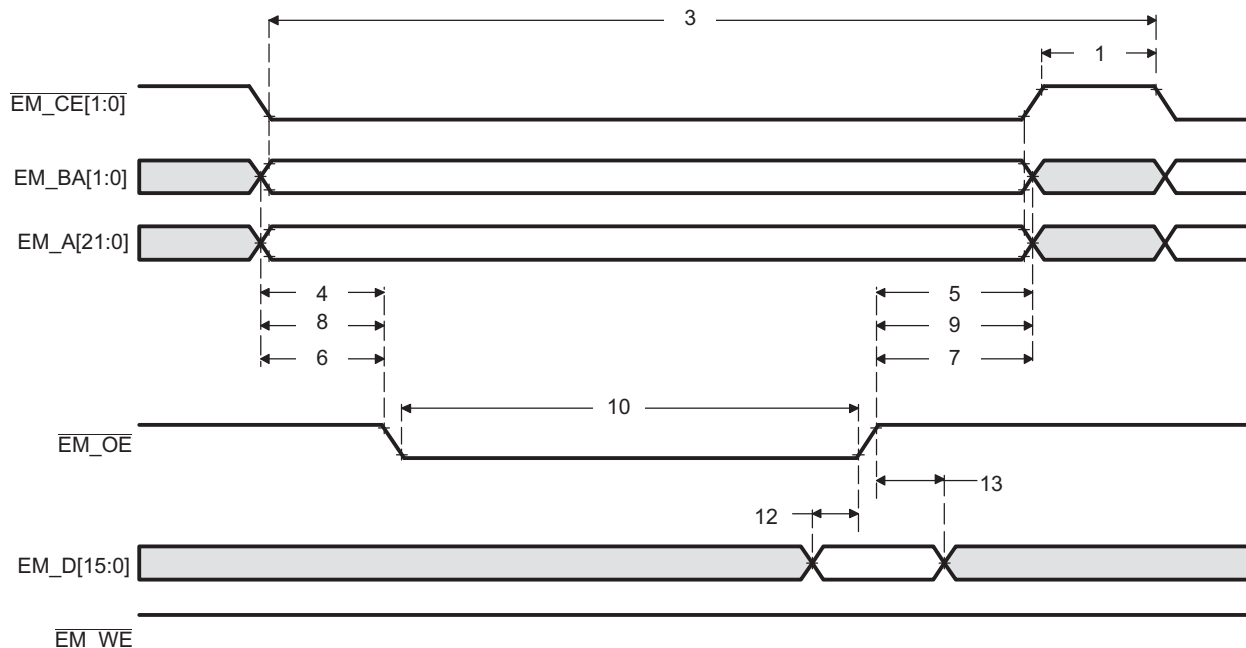
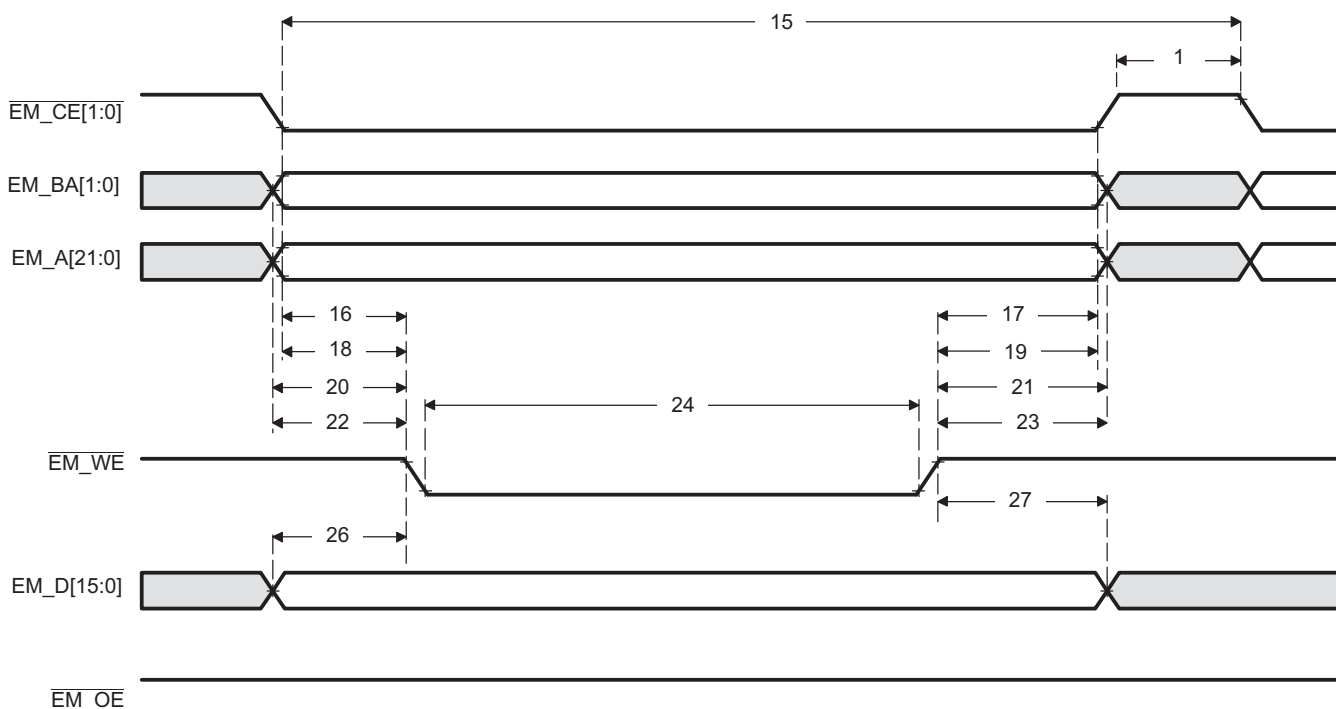

Figure 6-13. Asynchronous Memory Read Timing for EMIF
Figure 6-14. Asynchronous Memory Write Timing for EMIF
Table 6-21. Timing Requirements for Asynchronous Memory Cycles for AEMIF Module⁽¹⁾ (see Figure 6-13 and Figure 6-14)
Table 6-22. Switching Characteristics Over Recommended Operating Conditions for Asynchronous Memory Cycles for AEMIF Module⁽¹⁾ ⁽²⁾ ⁽³⁾ (see Figure 6-13 and Figure 6-14)
(1) TA = Turn around, RS = Read setup, RST = Read strobe, RH = Read hold, WS = Write setup, WST = Write strobe, WH = Write hold, MEWC = Maximum external wait cycles. These parameters are programmed via the Asynchronous Bank and Asynchronous Wait Cycle Configuration Registers. These support the following range of values: TA[4-1], RS[16-1], RST[64-1], RH[8-1], WS[16-1], WST[64-1], WH[8-1], and MEW[1-256]. See the *TMS320DM36x DMSoC Asynchronous External Memory Interface User's Guide* (SPRUF11) for more information.
(3) EWC = external wait cycles determined by EM_WAIT input signal. EWC supports the following range of values EWC[256-1]. Note that the maximum wait time before timeout is specified by bit field MEWC in the Asynchronous Wait Cycle Configuration Register. See the *TMS320DM36x DMSoC Asynchronous External Memory Interface User's Guide* (SPRUF11) for more information.
Table 6-22. Switching Characteristics Over Recommended Operating Conditions for Asynchronous Memory Cycles for AEMIF Module^{(1) (2) (3)} (see Figure 6-13 and Figure 6-14) (continued)